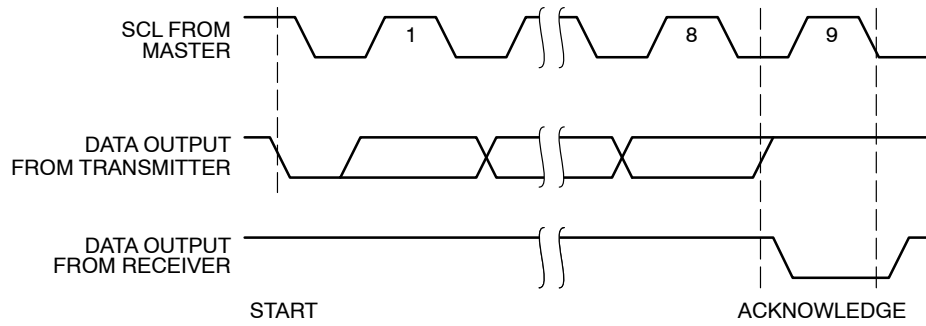
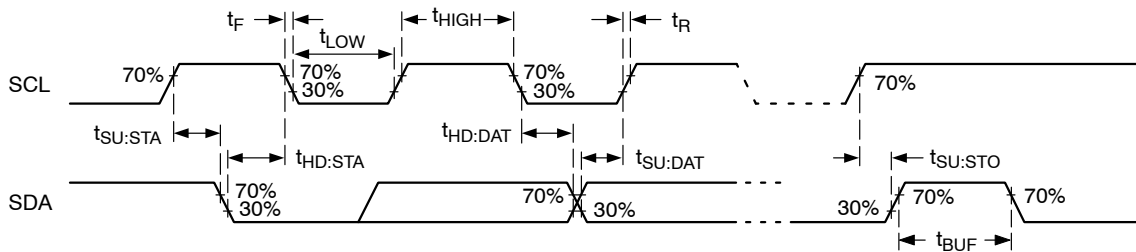

Figure 13. Acknowledge Timing
Figure 14. Bus Timing
6. Timing reference points are set at 30%, respectively 70% of V_{CC} , as illustrated in Figure 14. Bus loading must be such as to allow meeting the V_{IL} , V_{OL} as well as the various timing limits.
A matching Slave address is acknowledged (ACK) by the Slave by pulling down the SDA line during the 9th clock cycle (Figure 13). After that, the Slave will acknowledge all data bytes sent to the bus by the Master. When the Slave is the transmitter, the Master will in turn acknowledge data bytes in the 9th clock cycle. The Slave will stop transmitting after the Master does not respond with acknowledge (NoACK) and then issues a STOP. Bus timing is illustrated in Figure 14.